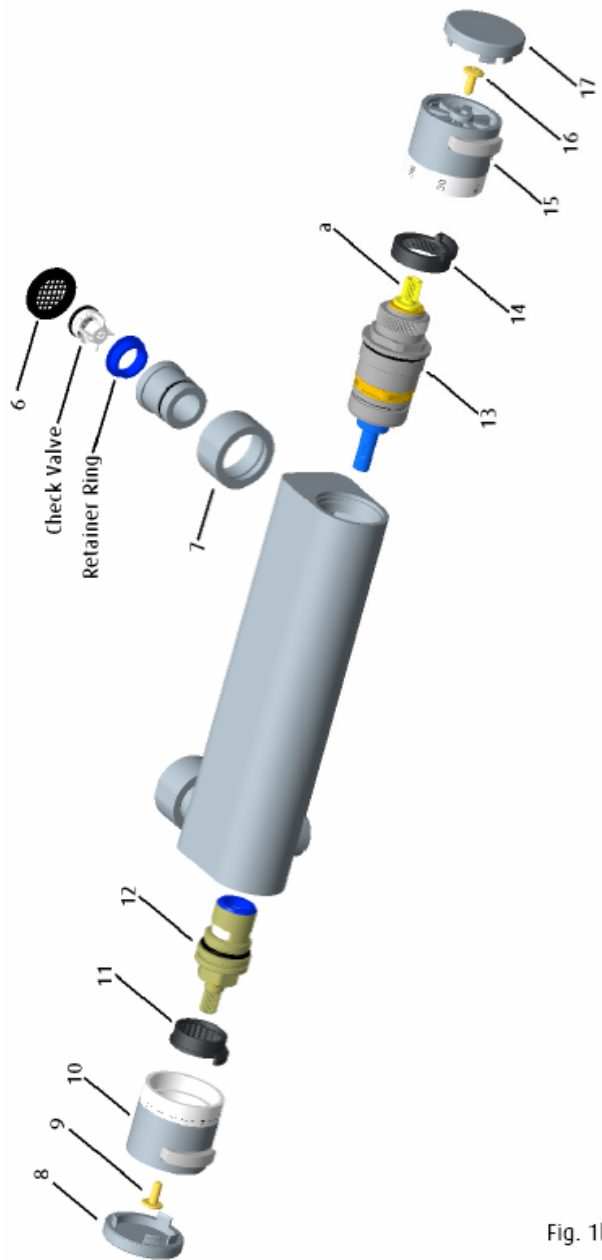

Fig. 1b
8.3 Cartridge Removal (See Fig. 1b)
4.2.2. Bar Shower Body (See Fig. 1b)